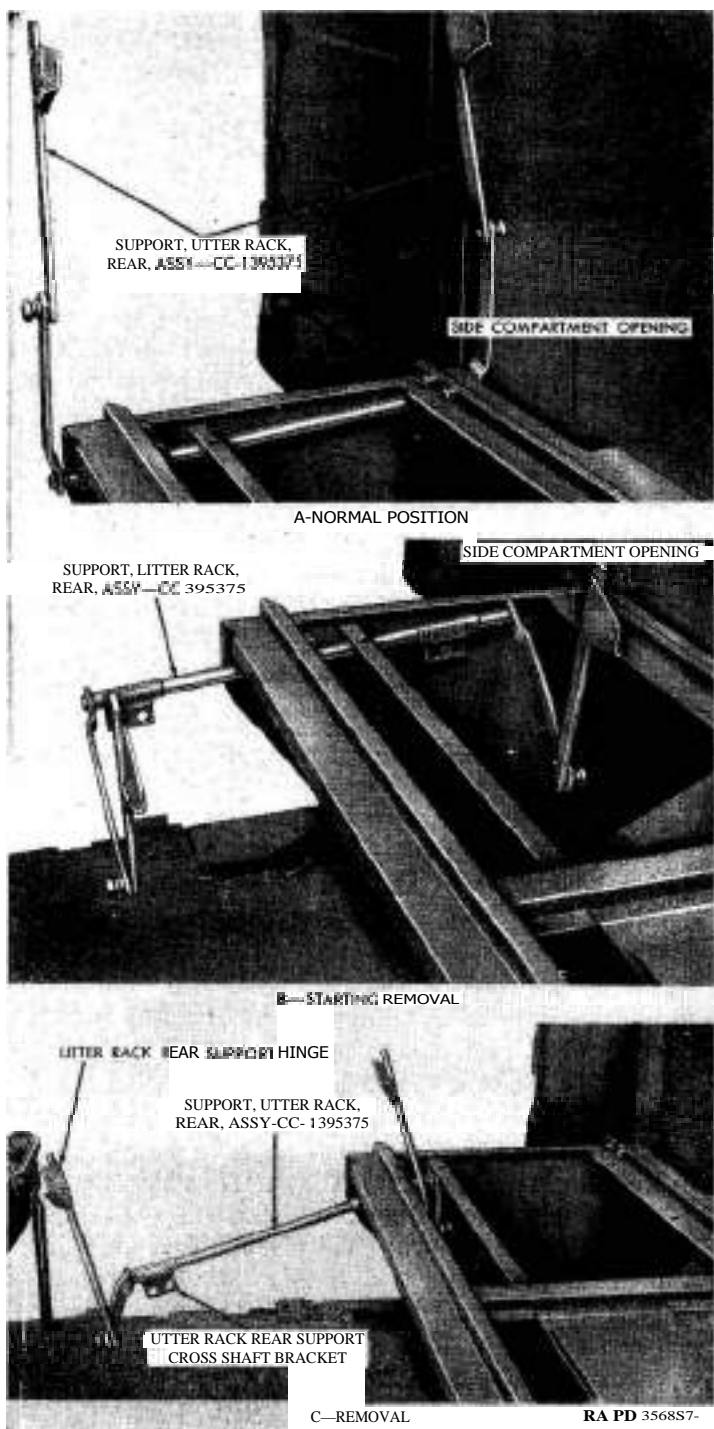

Figure 214. Removing litter rack rear support assembly.
- (1) Lower outside arm of litter rack rear support assembly into side compartment opening. Refer to A of figure 214.
- (2) Lift inside end of litter rack support and move outside arm into side compartment opening. Refer to B of figure 214.
- (3) Raise outside arm of litter rack support up and over side compartment inside panel and remove support from body. Refer to C of figure 214.
d. Position Litter Rack Rear Support Assemblies in Body Side Compartments. Insert outside arm of litter rack rear support assemblies up through opening in side compartment with litter rack rear support cross shaft brackets toward front of body. Refer to C of figure 214. Lift outer end of litter rack support and position support so that outside arms will be in side compartment. Refer to B of figure 214. Insert outside arm up through side compartment opening. Refer to A of figure 214.